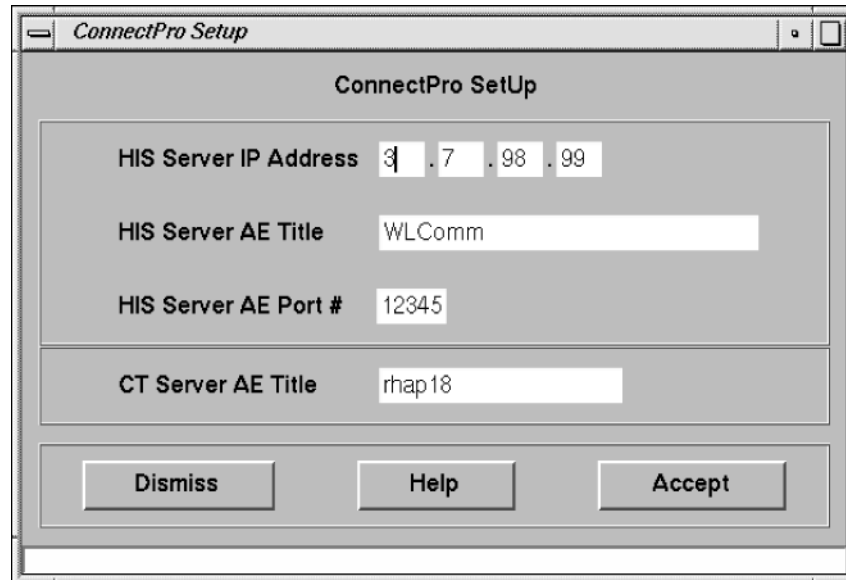

Figure 7-7 ConnectPro Setup Screen
- the console displays the ConnectPro Setup window as shown in Figure 7-7.